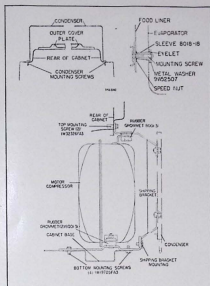

FIGURE 3 — Super Power System Mounting (Model F-712)
7. Remove the 8 condenser mounting screws, as shown in Figure 3.
9. Remove the evaporator mounting screws, as shown in Figure 3.
1. The shipping angle which secures the condenser to the motor compressor should not be removed until the motor compressor is in the installed position. With the motor compressor in place, remove the two shipping bracket condenser retaining screws (as shown in Figure 3), raise the condenser and remove the shipping bracket from the motor compressor base.